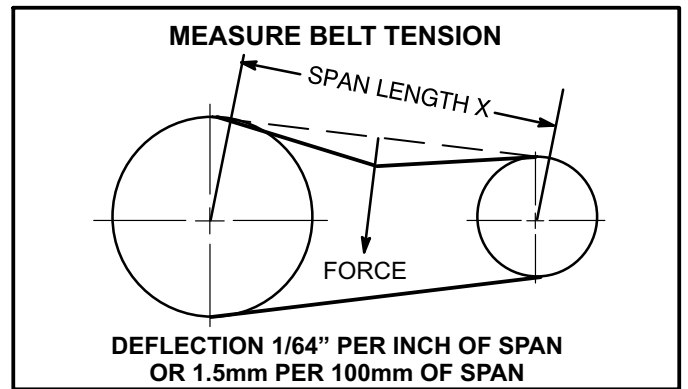

FIGURE 15
- 1 Measure span length X. See figure 15.
- 2 Apply perpendicular force to center of span (X) with enough pressure to deflect belt  $1/64$ " for every inch of span length or 1.5mm per 100mm of span length.